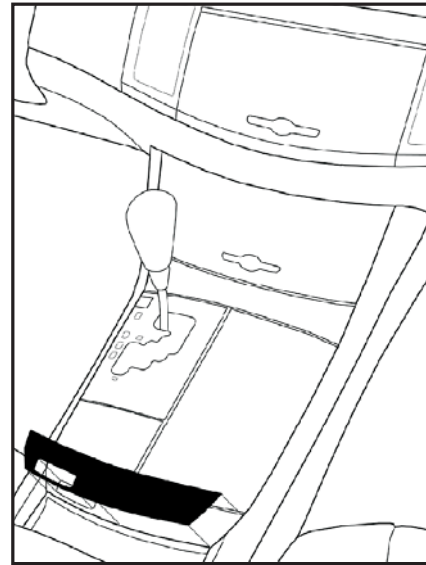

Fig. M1
- ⚠ A. Align part uniformly to edge of factory components. Edge of appliqué should be flush to edge of factory component,  $\pm 1.0\text{mm}$ . (Fig. M1).